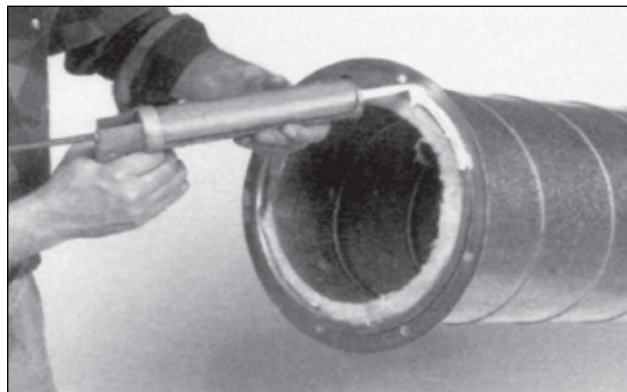

Figure 4. Applying gasketing material
2. apply approved gasketing material to the mating surface of the duct or fitting in which the coupling has been inserted, as shown in Figure 4. If the mating surface is a fixed angle ring, cover the face inside of any bolt hole pattern. If the mating surface is a Van Stone connector or flanged fitting, cover the flanged collar face.